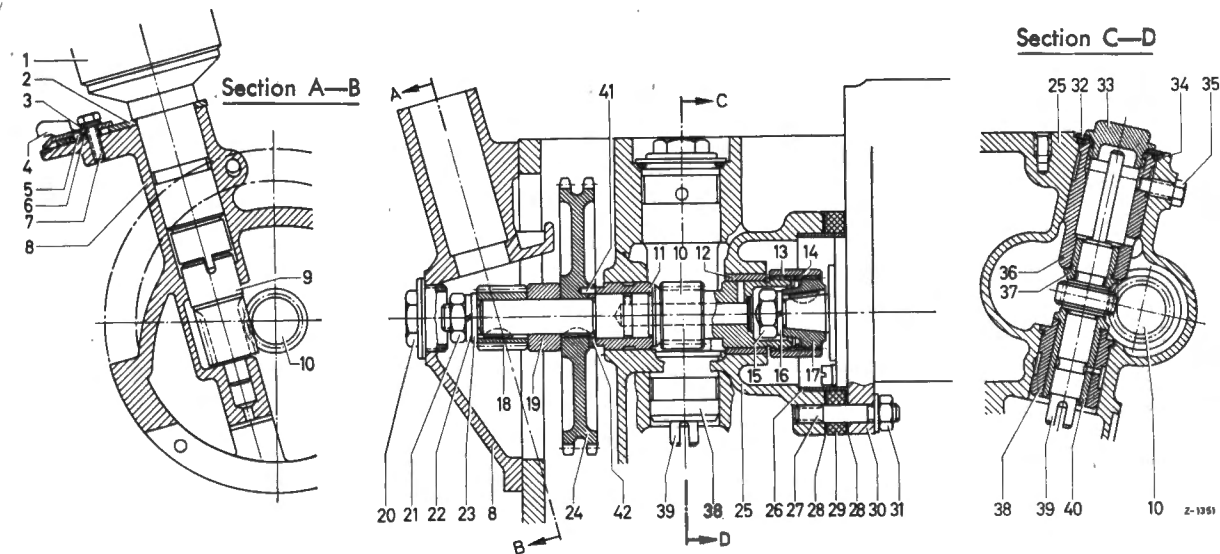

Fig. 18-6/3
If the idling gear has to be removed, first move the piston of the 1st cylinder to ignition TDC. Then remove the chain tensioner, the camshaft sprocket, the distributor (1), the distributor bearing (8) and the upper pivot pin for the chain guide bottom left. After loosening the hexagon nut (21), remove the lock washer (22), the washer (23), the drive sleeve (18), the front Woodruff key and the spacer sleeve (19). Now back out the locking screw for the chain drive several turns and remove the idling gear (24) and the stop ring (42) from the idling gear shaft (Fig. 18-6/3).